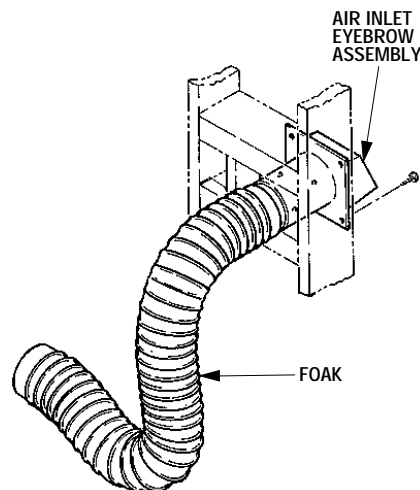

Figure 40
Step 2. Install the air inlet eyebrow (FOAK-4 or FOAK-4LD) through the wall opening (*Figure 40*). Push a 4 inch diameter NON-COMBUSTIBLE Class 0 or Class I flexible duct onto the eyebrow.